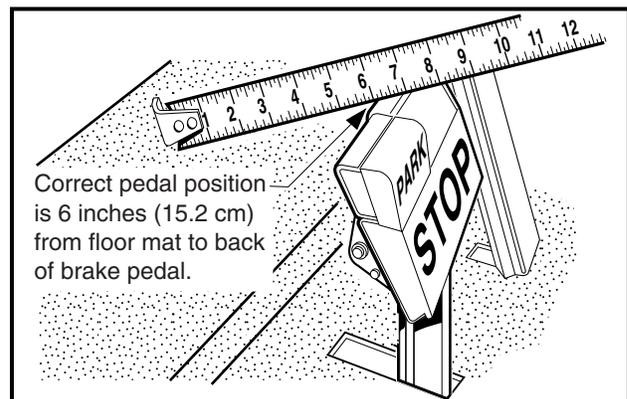

**Figure 5-23** Loosen Rear Brake Equalizer Rod Nuts
- 2.2. To provide slack in the brake cables, loosen the equalizer retaining nuts (2 and 3) on the equalizer rods (1) (**Figure 5-23, Page 5-17**).